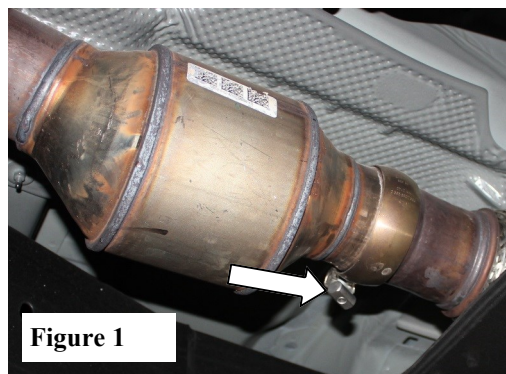

Figure 1
1. Unbolt the clamp behind the catalytic convertible. (See Fig. 1)